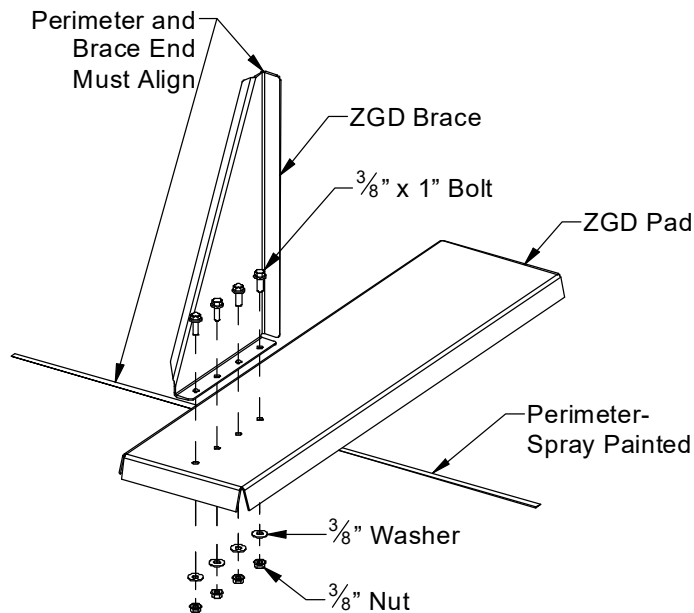

Fig 13 - ZGD pad and brace assembly
2. Place them on the spray paint lines for the support post locations. Line up the vertical flange of brace with the spray paint line for the wall sheet. See Figure 13 for details.